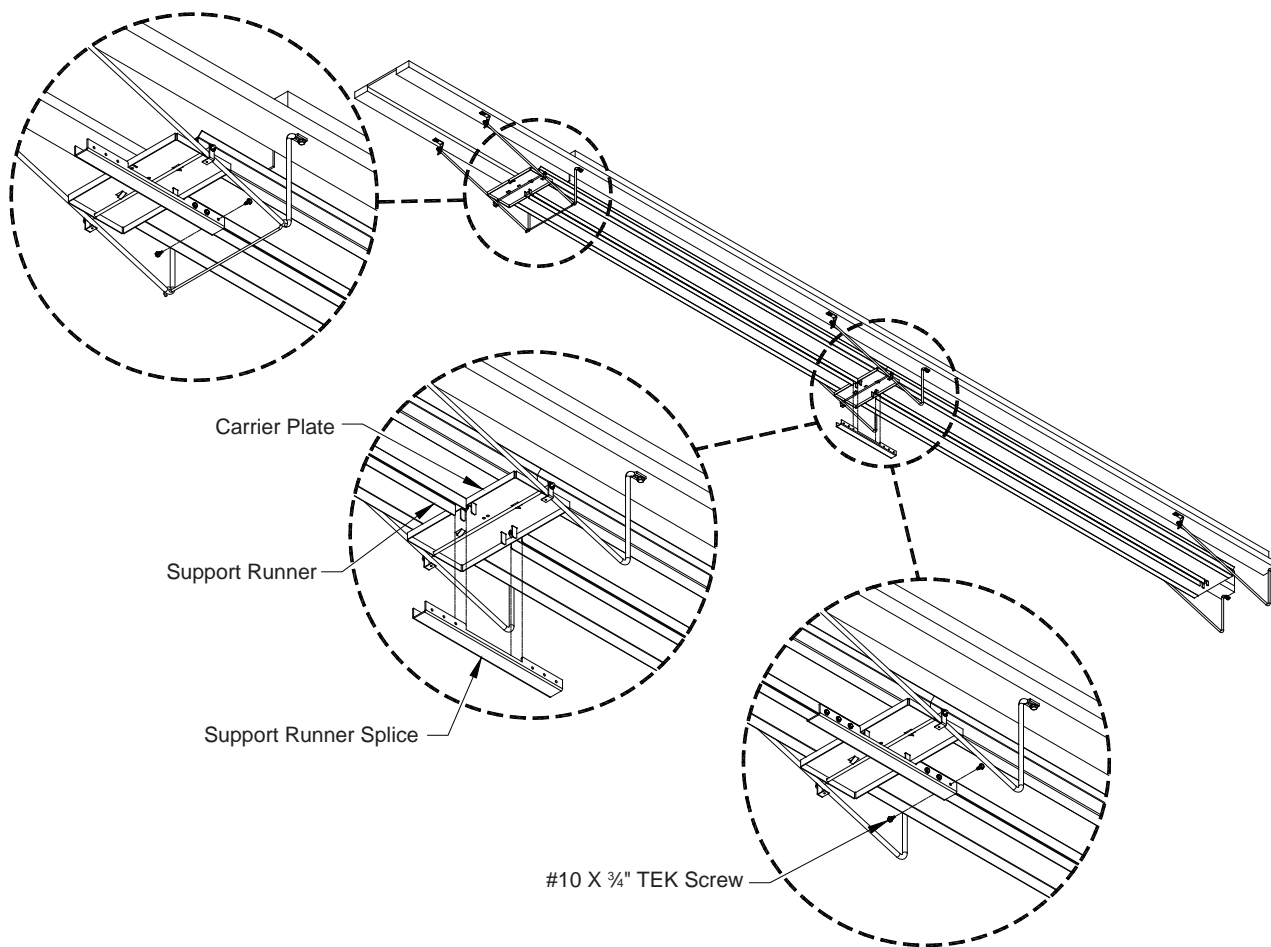

Figure 9D
Once all the baffle sections are installed go back and install a Support Runner Splice over the carrier plate and the support runner on each side. Attach the splice using (12) #10 x 3/4" TEK Screws. The carrier plate at each end of the baffle run will have a Support Runner Splice also, but will only be attached to one support runner with (6) #10 x 3/4" TEK Screws. **See Figure 9D.**